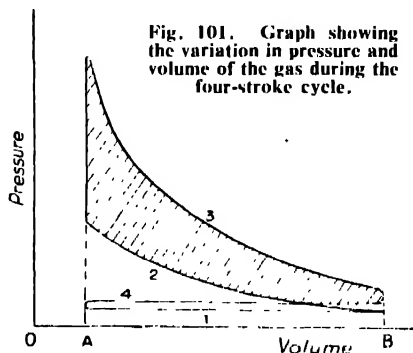

Fig. 101. Graph showing the variation in pressure and volume of the gas during the four-stroke cycle.
(1) *Suction* The piston moves outwards, the inlet valve being open, and a fresh charge is drawn into the cylinder. The pressure during this stroke is approximately atmospheric, and it is shown by line 1 in the indicator diagram Fig. 101.
(2) *Compression* The crank returns and forces the piston inwards, all valves being closed. The mixture in the cylinder is compressed into the clearance space, and pressure rises as shown by line 2, Fig. 101.
(3) *Expansion*. In this stroke the high-pressure products of combustion force the piston outwards, doing work on the crankshaft, while the pressure falls as shown by the curve 3, Fig. 101.
In Fig. 101 the shaded area represents the work done during the cycle. The area can be increased by increasing the ratio of the volume before compression to the volume after compression. This is called the compression ratio of the engine, and referring to Fig. 101 it equals